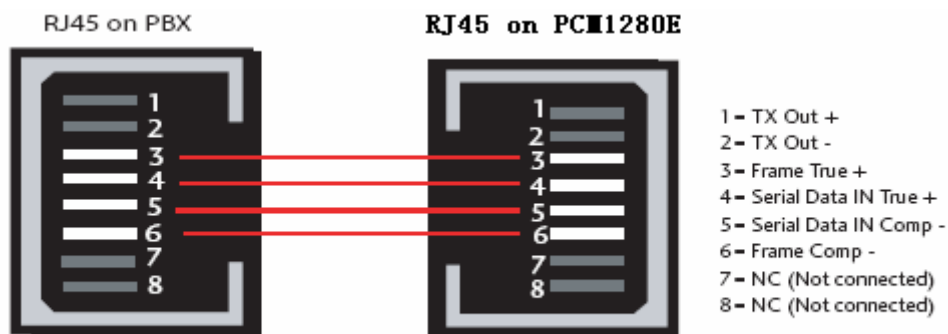

Figure 2-3
Step 2: Connect lines. See Figure 2-3.